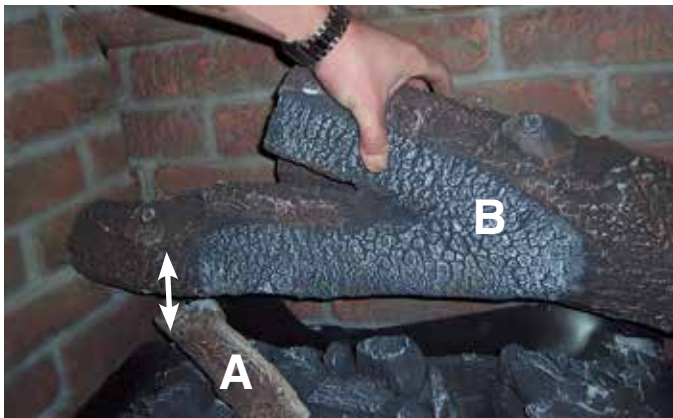

Figure 88: Log B Position
- 3) Line up Locator on Log B with Locator on Log A as shown in Figure 88.